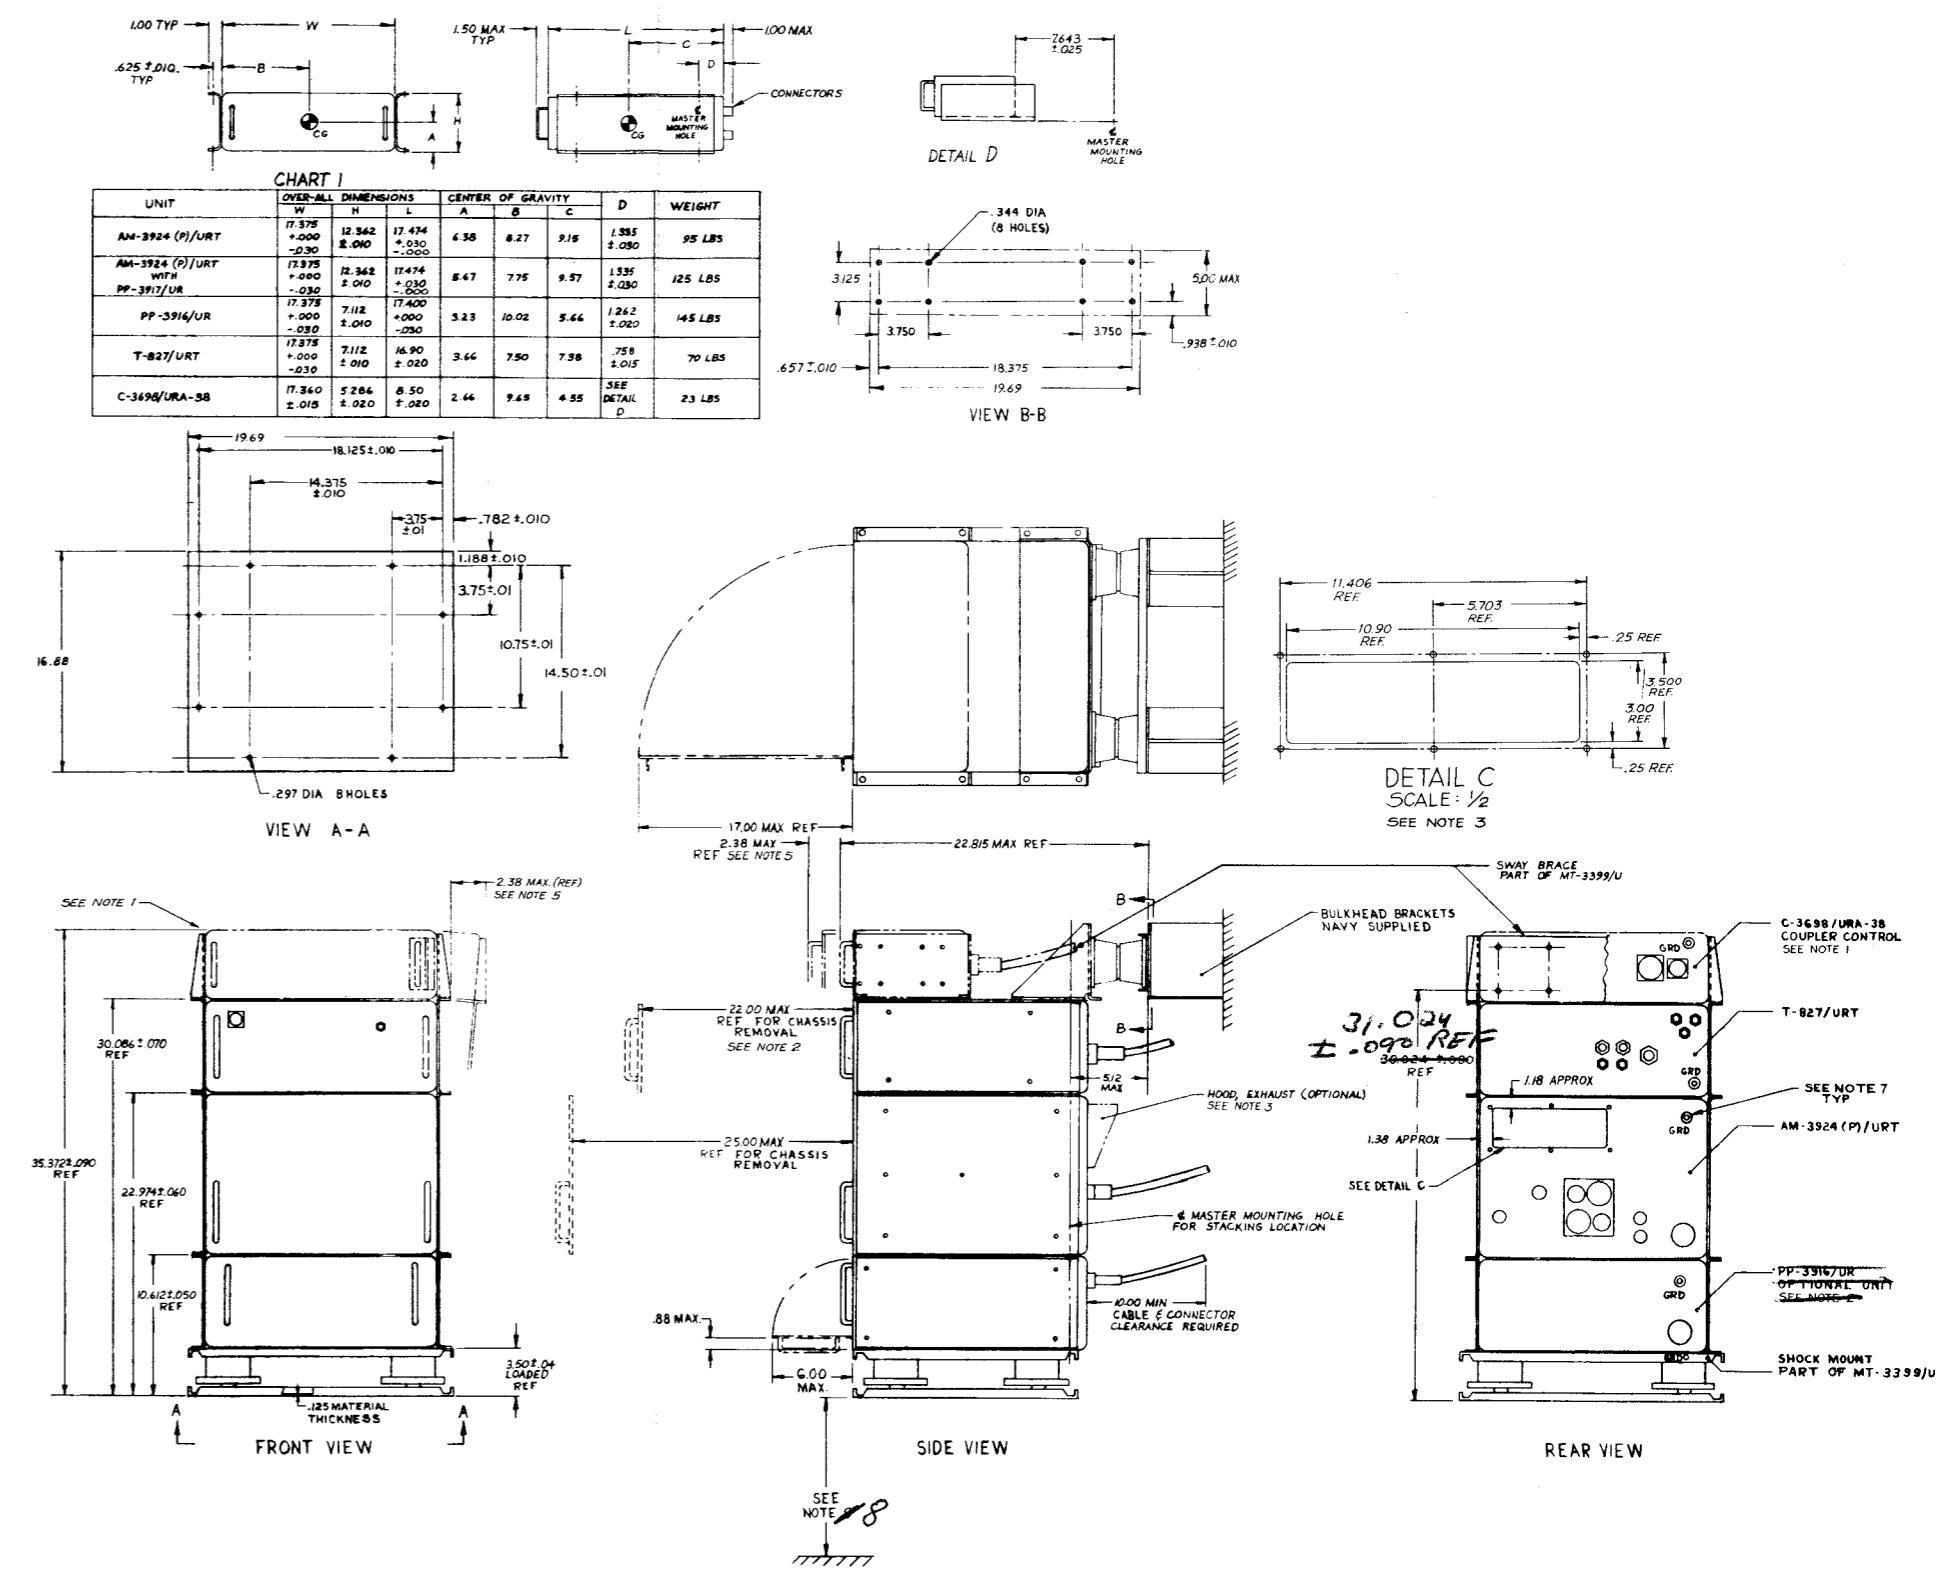

Figure 2-1. Radio Transmitting Set AN/URT-23(V), Outline and Mounting Dimensions
2-9. In selecting a shipboard installation site, adequate consideration must be given to space requirements (figure 2-1). This requirement will include space for servicing the slide-mounted T-827/URT and AM-3924 (P)/URT when extended from their cases, and cable bends. In addition, during 400 CPS operation the stack must be mounted at least four inches
- c. Using the dimensions shown in view A-A of figure 2-1, drill eight 0.297 inch diameter holes for securing the shock mount base plate to selected mounting surface.
- d. Remove the AN/URT-23(V) from the shipping carton.
- h. Attach the swaybrace to the top unit of the AN/URT-23(V) with 5/16-18 hardware (to be supplied by the installing activity).
- i. Measure the distance from the sway brace vibration isolators to the bulkhead (figure 2-1). Using the dimensions shown in view B-B of figure 2-1, modify bulkhead as required to interface with the sway brace. Secure swaybrace to bulkhead, using 5/16-18 hardware (to be supplied by the installing activity).
- j. If used, position the C-3698/URA-38 as shown (phantom) in figure 2-1 and secure by bolting the mounting brackets to the top of the T-827/URT mounting brackets.
It is advisable to use the same installation configuration used for stack mounting (figure 2-1) so that supplied cables will reach.
2-21. COOLING. Precautions should be taken to ensure that nothing obstructs the AM-3924 (P)/URT front panel air intake filter or the air exhaust at rear of the case. If exhaust air is ducted, provisions (such as a booster fan in the duct work) must be made to compensate for the impedance of the duct work so that a minimum of 170 CFM of air flows through the air exhaust on the rear of the case. Six holes, tapped for 6-32 hardware, are provided on the perimeter of the AM-3924 (P)/URT exhaust port for attachment of the duct (figure 2-1). Length of 6-32 screws must be chosen to prevent interference with rubber gasket on far side of exhaust port (figure 2-1). If no ducting is to be used, and the units will be exposed to the elements, an exhaust hood should be fabricated using the information provided in figure 2-3. The hood should then be attached to the AM-3924 (P)/URT exhaust port with 6-32 screws as shown in figure 2-1.